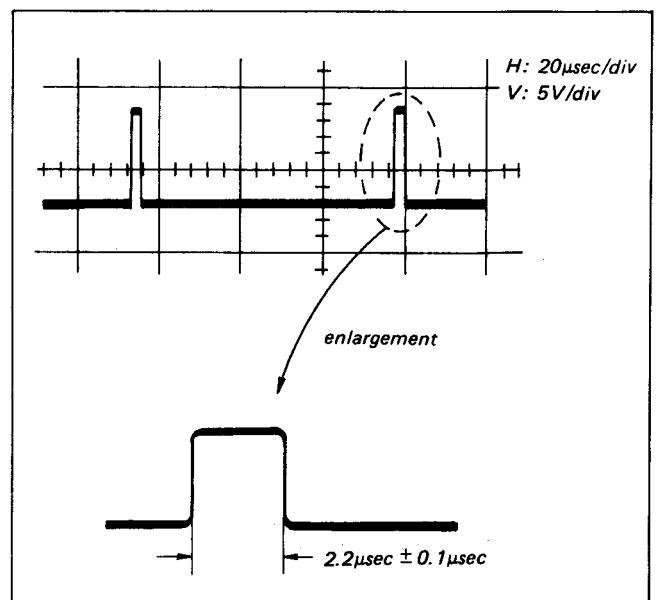

Fig. 5-25. Pilot burst flag adjustment
- i) Adjust to $2.2 \mu\text{sec} \pm 0.1 \mu\text{sec}$ with RV009. (See Fig. 5-25.)